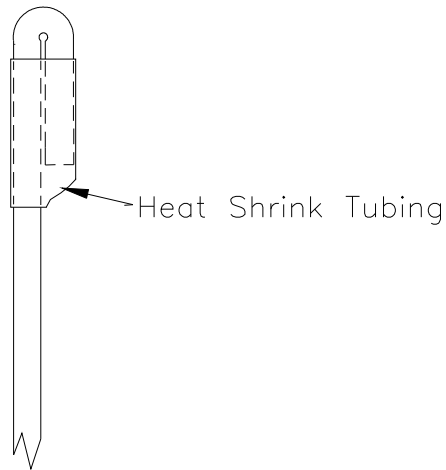

Figure 2
- 11.4. Remove Wire 77207A22 from the tachometer and isolate the plug by using the supplied heat-shrink tubing as shown in Figure 2.
- 11.5. Remove Wire 77208A22N from the tachometer and isolate the plug by using the supplied heat-shrink tubing as shown in Figure 2.
- 11.6. Remove Wire 77209A22WH from the tachometer and isolate the plug by using the supplied heat-shrink tubing as shown in Figure 2.